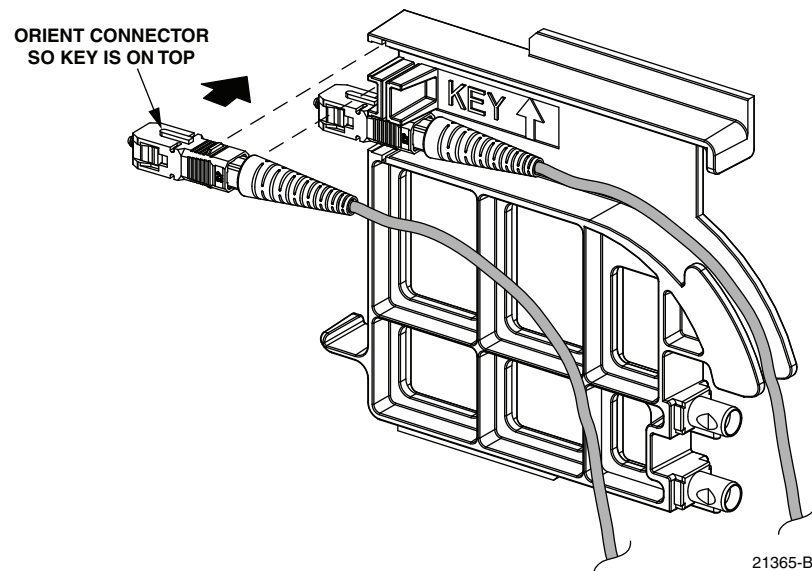

Figure 45. Installing Patch Cord Connector in Dust Cap Assembly
8. Install the patch cord connector in the dust cap assembly as shown in Figure 45.